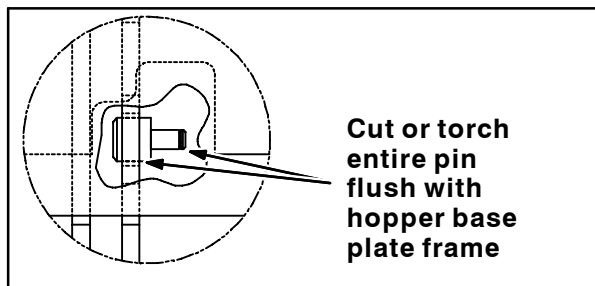
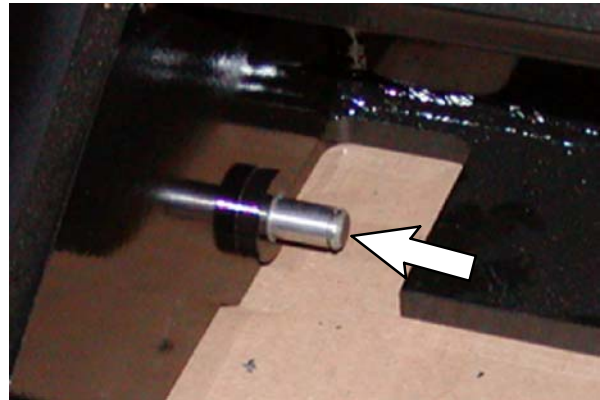

FIG. 4
FIG. 5
4. Cut or torch the worn pin from the hopper base plate frame so the pin is flush with the plate. If necessary, grind the pin flush with the plate. Refer to Fig. 4 and Fig. 5.